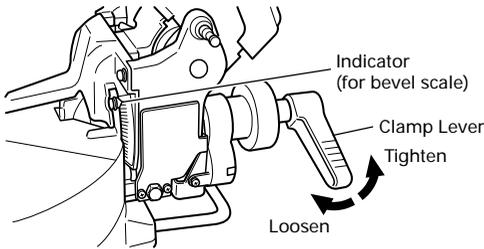

Fig. 18
11. Bevel cutting procedures (Fig. 18)